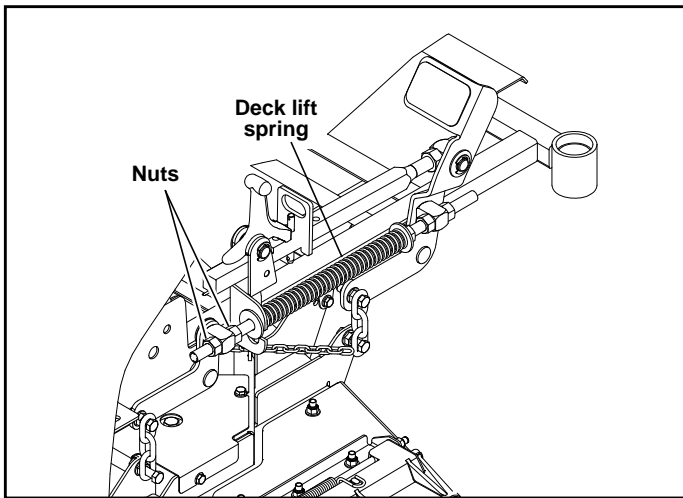

Figure 6-4
6. Loosen the two nuts at the rear of the deck lift spring. Figure 6-4.